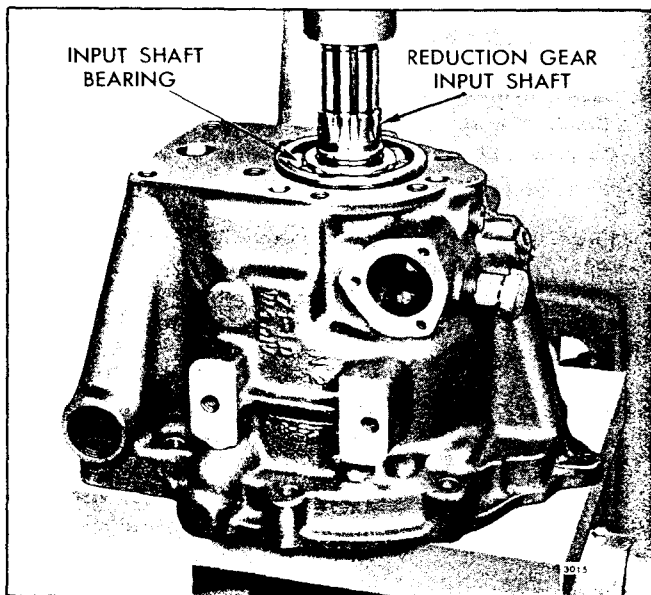

Fig. 33 - Removing Reduction Gear Planetary Gear and Input Shaft Assembly from Input Shaft Bearing (2.5:1 and 3:1 Ratios)
- f. Place the reverse gear housing over the top of the shop towels with the forward face of the gear housing resting on the bed of the press and the outer end of the drive shaft under the ram of press in the same manner as shown in Fig. 33.
- d. Then press the planetary gear and input shaft assembly out of the bearing as shown in Fig. 33.